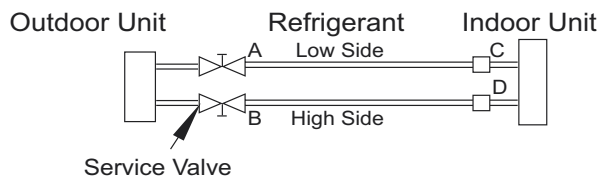

Fig. 46 —Service Valve
1. Completely tighten flare nuts A, B, C, D. Connect the manifold gage charge hose to a charge port of the low side service valve (see Fig. 46).